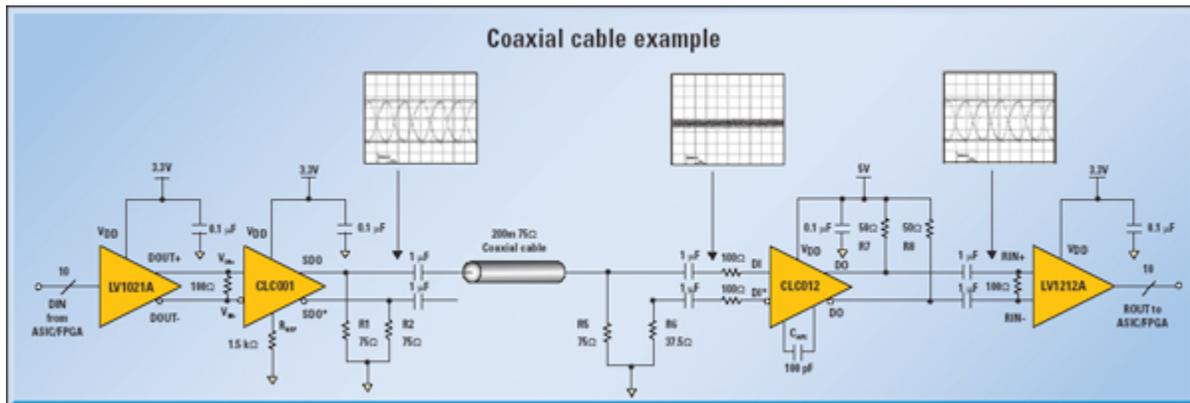
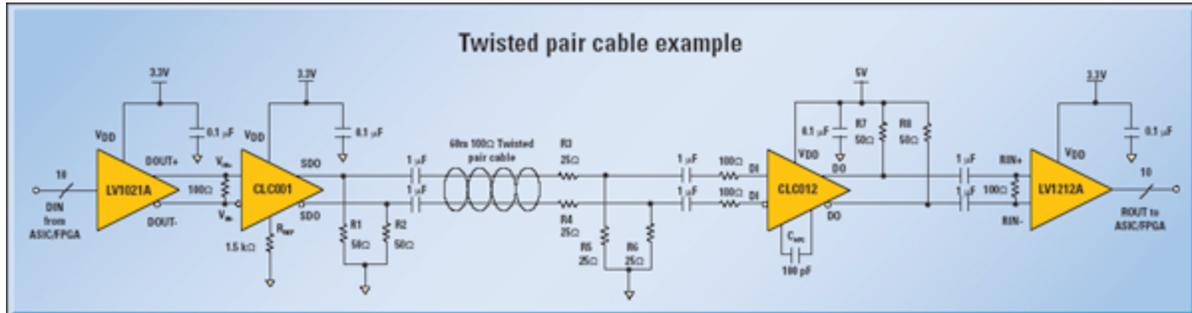

Figure 1: Example of a communication channel employing LVDS 10-bit SerDes and SDI cable driver/equalizer combo to transmit data over coaxial cable
Figure 2: Example of a communication channel employing LVDS 10-bit SerDes and SDI cable driver/equalizer combo to transmit data over twisted pair cable
Systems employing LVDS devices without any signal conditioning features can typically achieve transmission distances of several meters. Those employing LVDS ICs with driver pre-emphasis and receiver equalization can reach 15- to 20-meter distances. Systems that use LVDS interface devices but are required to transmit data across long distances (from several tens of meters to even hundreds of meters) must employ devices specifically designed to drive long transmission lines to work in conjunction with the LVDS devices. Figure 1 is an example of a communication channel in such a system.
Figure 2 is a block diagram of a communication channel that employs LVDS 10-bit SerDes and SDI cable driver / equalizer combo to move data across twisted pair (TP) cables. The only difference between this channel and the channel in Figure 1 (besides different cable) is in resistor values of R1 through R6. These resistors were experimentally determined; they adjust signals for optimal equalization.
Both circuits illustrated in Figures 1 and 2 were constructed using evaluation kits of the respective devices and tested using a bit-error rate tester. Both circuits exhibited operation without errors. The input was a 10-bit wide pseudo random bit stream (PRBS-15) latched in by a 40 MHz clock ( $DS92LV1021A T_{CLK}$ ). The equivalent data rate transmitted through the cables was 480 Mbps.